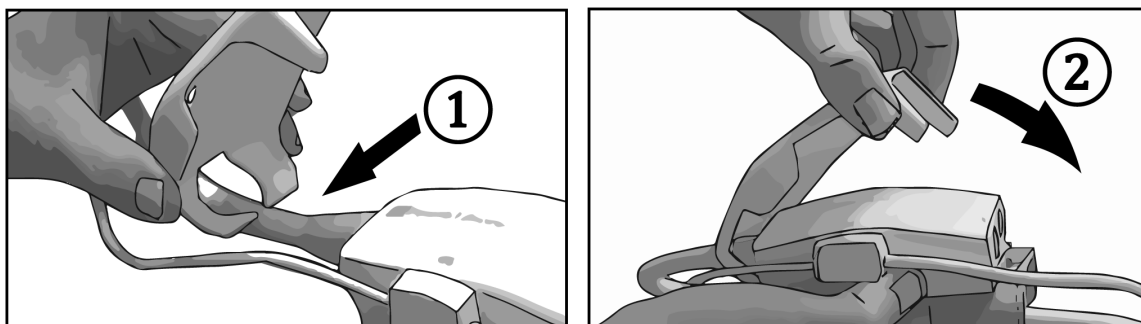

Figure B-1: Applying pressure controller cover
2. Place the pressure controller cover's back mounting notch around the pressure controller cable. See step 1 in Figure B-1 on page 410.
3. Snap the pressure controller cover over the pressure controller, making sure that the pressure controller cover does not interfere with the heart reference sensor (HRS) connection. See step 2 in Figure B-1 on page 410.